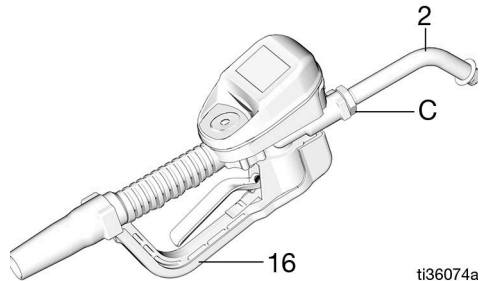

FIG. 8
1. Adjust nut (C) on extension (2) so that the maximum thread engagement of the extension can be utilized (FIG. 8).
2. Thread extension (2) into housing until it bottoms out (FIG. 8).
3. Align extension (2) with metered dispense valve housing and handle (16) (FIG. 8).
4. Firmly tighten nut (C) (FIG. 8).